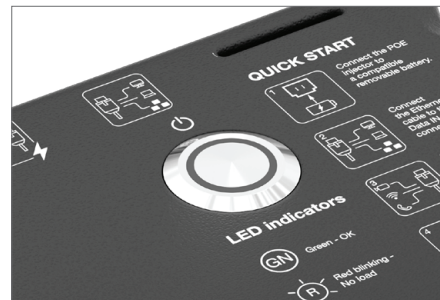

Figure 2
4. Press the button. For the first two seconds, the indicator will display the battery or Power Delivery status. **Green means** the battery is fully charged or there is no power limitation via Power Delivery. **Yellow indicates** the battery is low or there is a power limitation via Power Delivery. **Red signifies** the battery is fully discharged or Power Delivery is unavailable. (See Fig.2)
5. To turn off the PoE injector, press and hold the button. (See Fig.2)